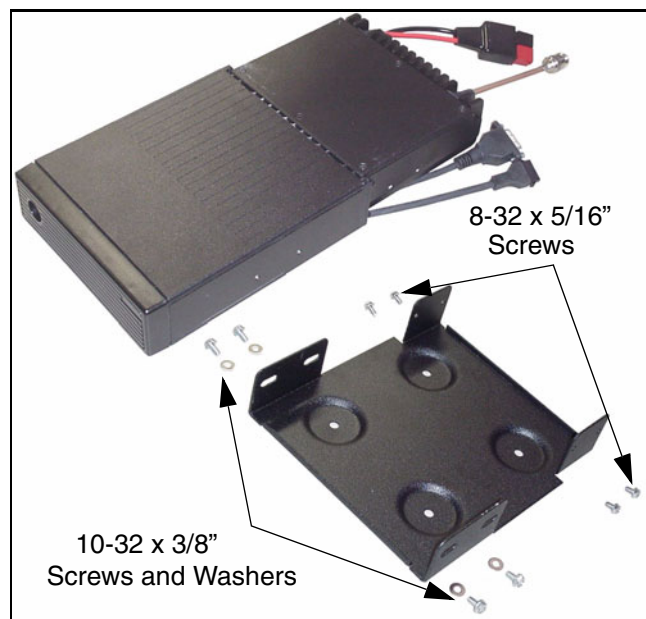

Figure 2-3 100W Transceiver Mounting Bracket
on the bottom only (because the one set of mounting holes are offset), so it is intended for floor mounting. However, the -008 bracket has two sets of mounting holes to allow either top or bottom installation, so it can also be used for dash or overhead mounting. Refer to Figure 2-3 and proceed as follows to mount a 100W front or remote mount transceiver:
2. Mount the transceiver in the mounting bracket using the screws shown in Figure 2-3.